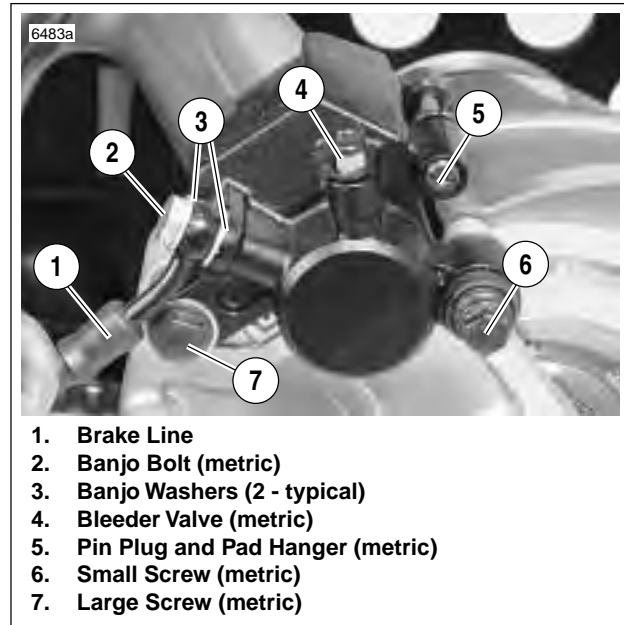
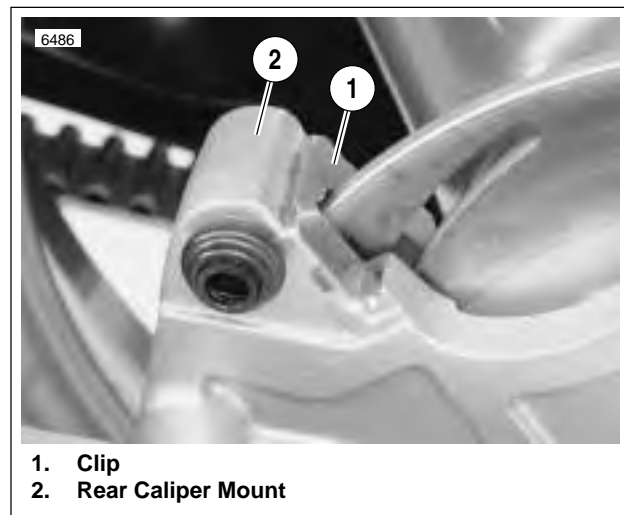

Figure 2-38. Rear Brake Caliper (Typical)
Figure 2-39. Caliper Mount Clip
2. See Figure 2-38. Remove banjo bolt (2) (metric) and two banjo washers (3) to disconnect brake line (1) from caliper. Discard banjo washers.
3. Remove small screw (6) (metric) and large screw (7) (metric) to detach caliper from mount.
4. See Figure 2-39. Remove clip (1) from rear caliper mount (2) if necessary.
1. See Figure 2-38. Remove pin plug and pad hanger (5) (metric) to free brake pads.
- See Figure 2-39. Install caliper mount clip (1) if removed.
- See Figure 2-38. Install caliper assembly on caliper mount. Brake pad surfaces must face rear brake rotor.
- Install large caliper screw (7) (metric). Tighten to 18-22 ft-lbs (24-30 Nm)
- Install small caliper screw (6) (metric). Tighten to 14.5-18 ft-lbs (20-24 Nm).